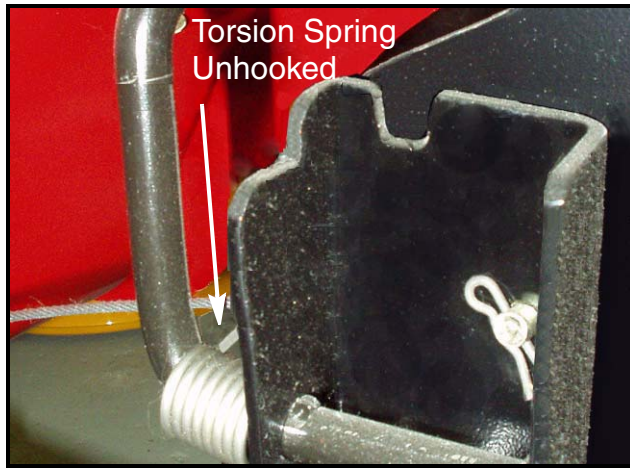

FIGURE 3
13. Unhook the long arm of the lift handle's torsion spring from the lift handle. See Figure 3.